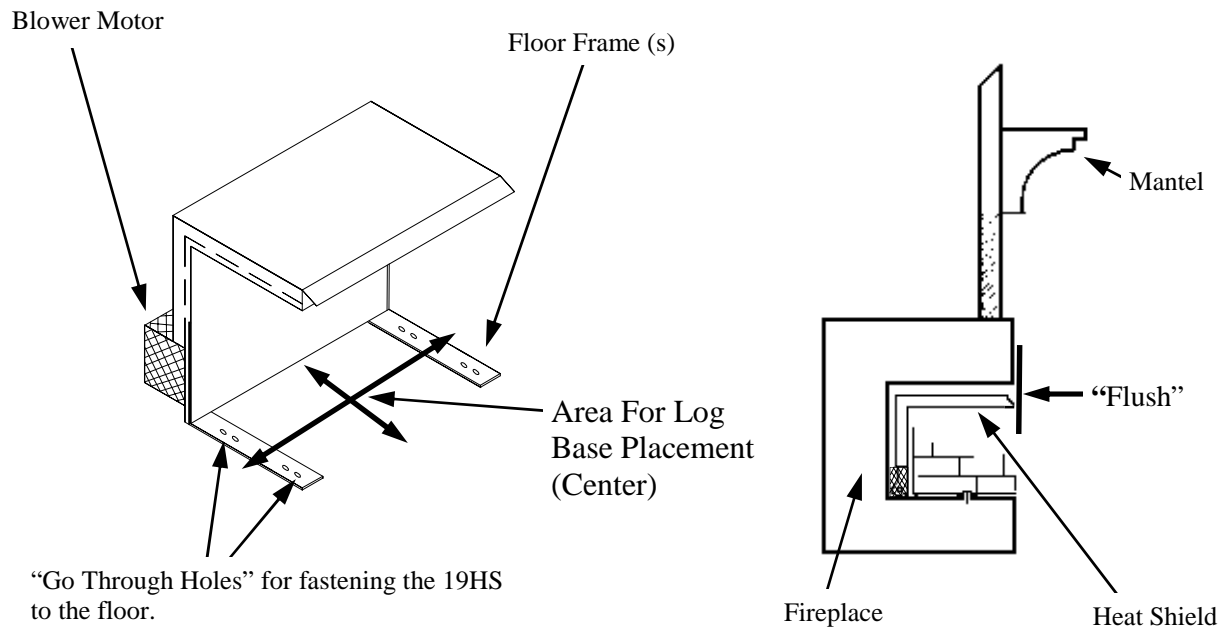

Figure 8
**NOTE:** Centrally locate the Heat Shield in the fireplace and place it deep enough into the fireplace to accomplish adequate draft (if use as a vented heater is planned). Ensure that the Heat Shield front is inside the front edge of the fireplace, see Figure 8. Using the screws and anchor provided, fasten the Heat Shield to the floor of the fireplace. On each side of floor frame of Heat Shield base, there is a “go through hole”. Position the Heat Shield as described above. Mark the hole for drilling. See Figure 8.